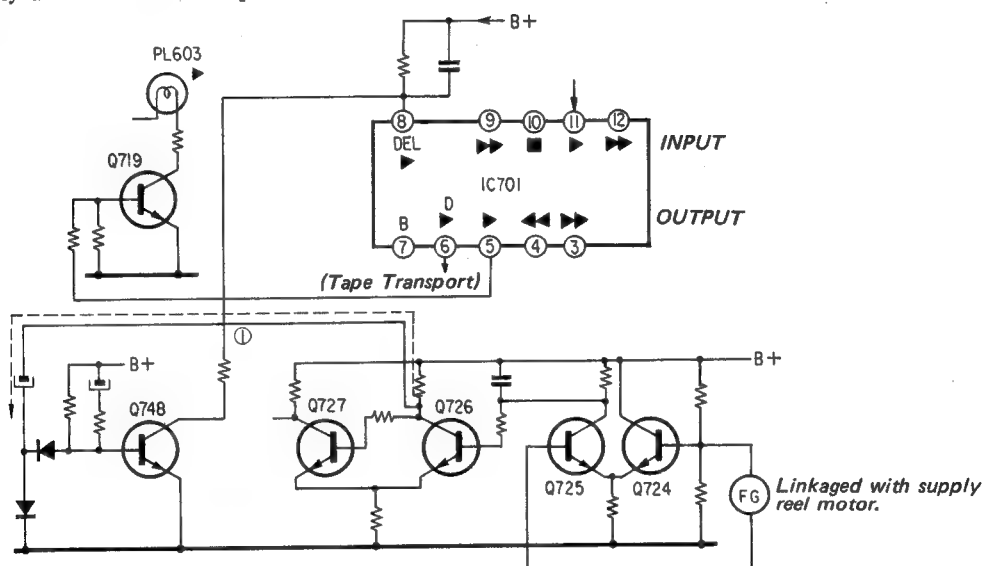

Fig. 2
2. Action when switched from Fast Forward (▶▶) or Rewind (◀◀) to Forward (▶). (Refer to Fig. 2)
⑪▶ (Input) → ⑤▶ (Output) → lamp lights